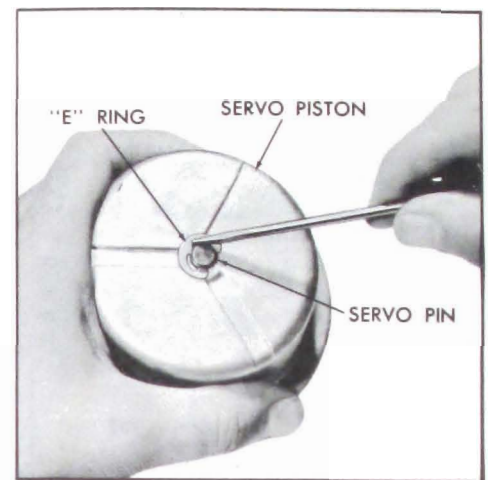

Figure 5-575
2. Install band apply pin retainer, spring and washer, into bore of servo piston and secure with "E" ring. See Figure 5-575.